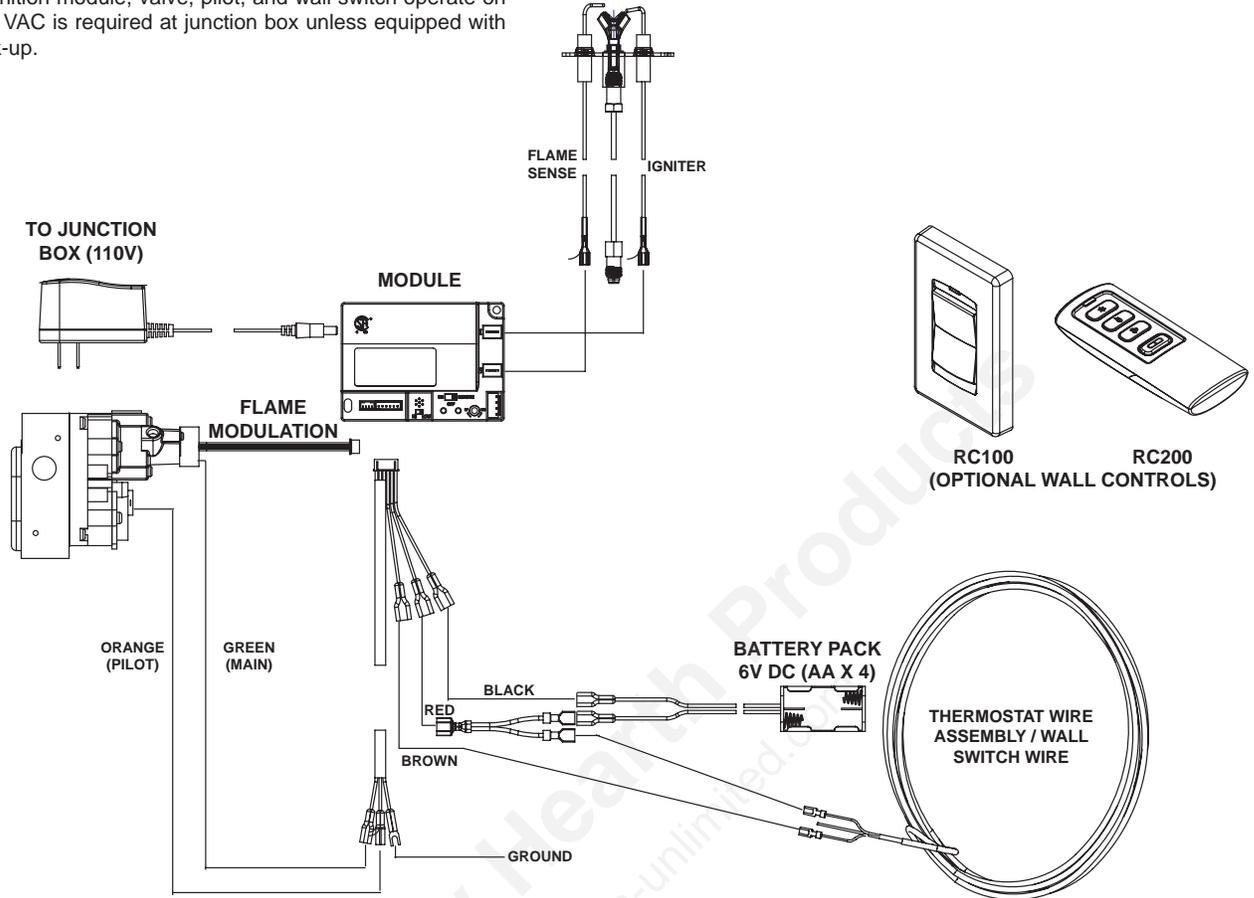

Figure 12.1 IPI Wiring Diagram
- Refer to Figure 12.1, IntelliFire Plus™ Pilot Ignition (IPI) Wiring Diagram.
2. A wall switch can be wired into the control module brown and red wires. See Figure 12.1.